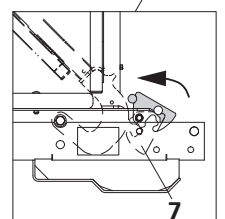

Fig. A2.06a
3. Disconnect crane lifting gear, swivel up pawls (7) and fold down handrail frame (8). The safety pawls (7) will fall back and lock the platform in its folded position. (Fig. A2.06a)